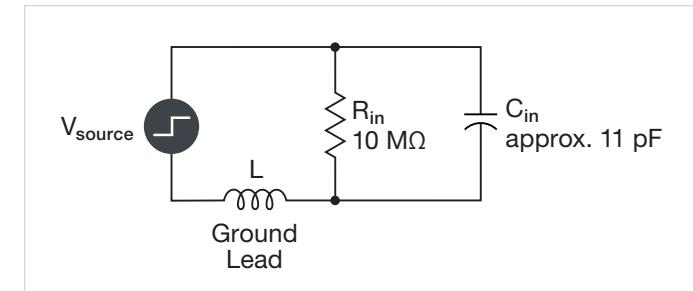

Figure 6.1. Equivalent circuit of a typical passive probe connected to a voltage source on a DUT.
Ground paths, whether on a probe or in a circuit, have inductance and their impedance increases as signal frequency increases. Figure 6.1 shows the equivalent circuit of a probe connected to a device under test. Notice that there's an inductance (L) associated with the ground lead. This ground-lead inductance increases with increasing lead length.